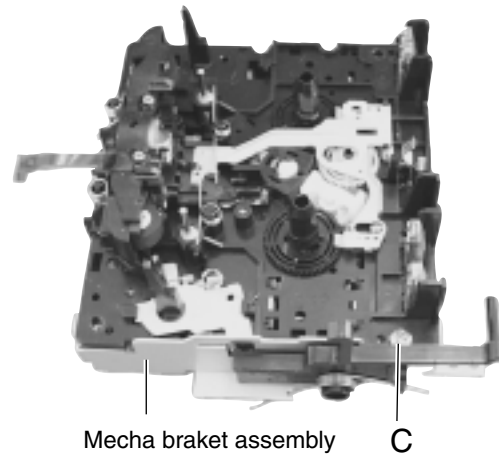

Fig. 9
■ **Removing the mecha braket reel pulse P.C. board and solenoid (See Fig. 9 and 10)**